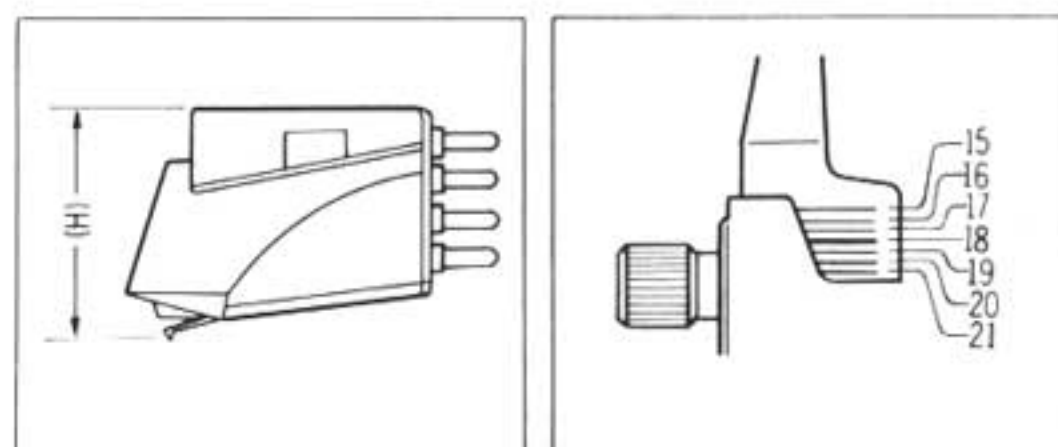

Fig. 16
- If the cartridge height is 18 mm as shown in the picture, lock the arm bearing support at the line indicated in the picture. (See Fig. 16) The arm height can be adjusted in 1 mm increments over a range of 6 mm.